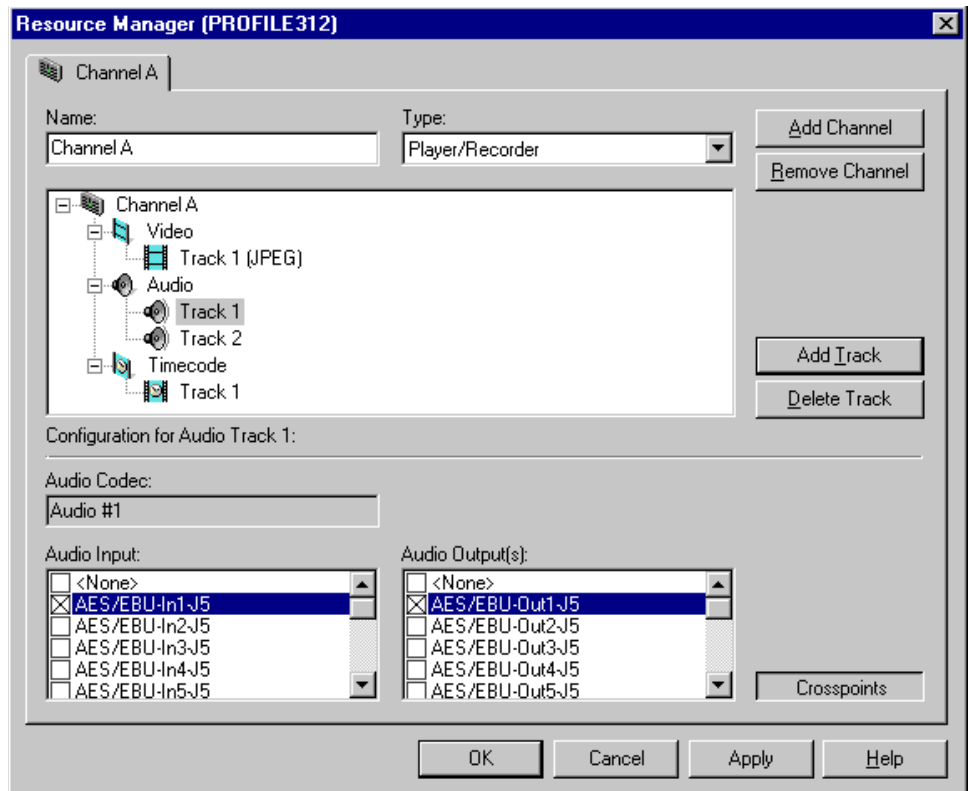

Figure 158. Audio inputs and outputs
1. Select the audio Track icon in the configuration tree. With the **Crosspoints** button selected, the Audio Input and Output check boxes appear at the bottom of the Resource Manager dialog box (see Figure 158).